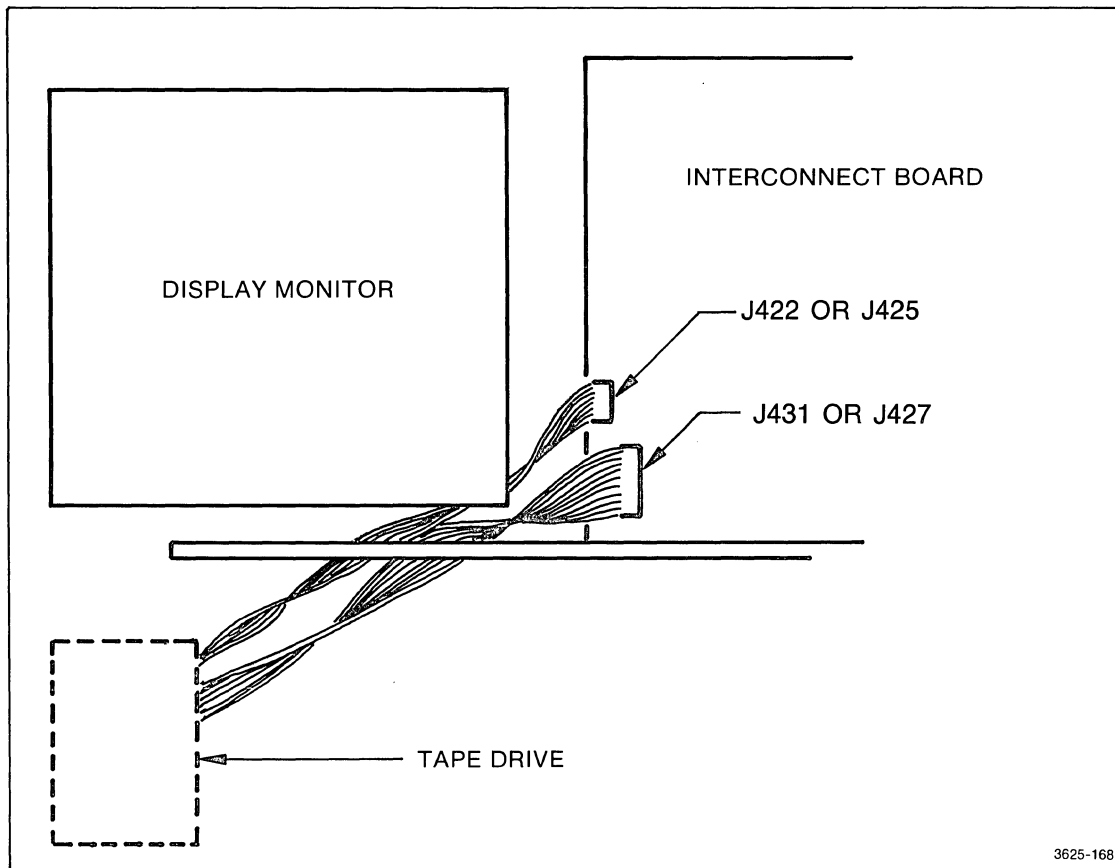

Figure 5-39. Tape drive interconnect connectors.
4. If the system contains Option 01, the tape drive, the drive should have its power disconnected. This can be done by locating J422 and J431 (monochrome) or J425 and J427 (color) on the Interconnect (see Figure 5-39) and removing the connectors attached to these jacks.